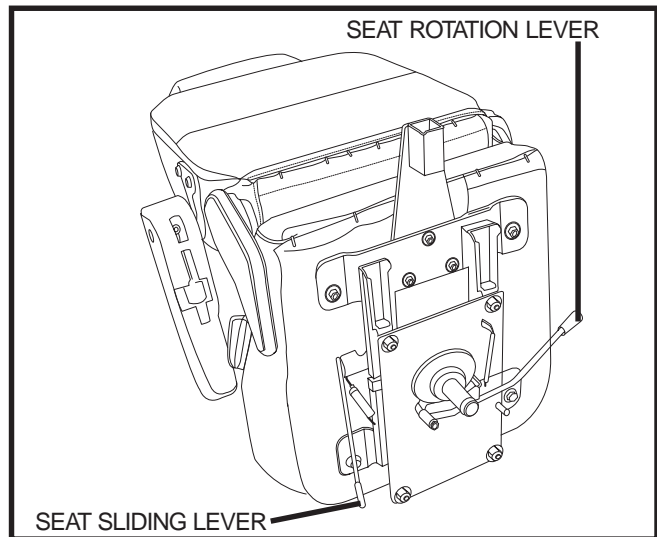

Figure 17. Seat Adjustment Levers
1. Push forward on the seat rotation lever to unlock the seat. See figure 17.
You can reposition the seat forward or rearward to adjust the distance between the seat and the tiller. See figure 17.